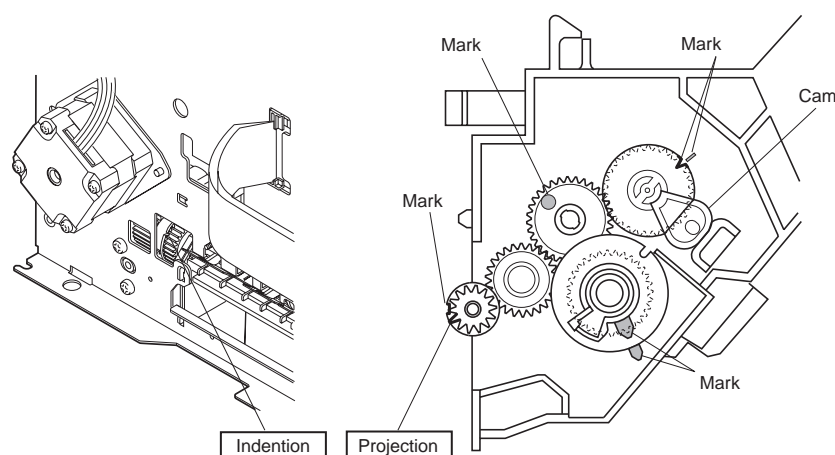

Figure 2-17 ASF Gear Initial Position Adjustment
- 1) Rotate the pick-up roller to place the ASF unit's cam and the mark in the position shown in *Figure 2-17*.